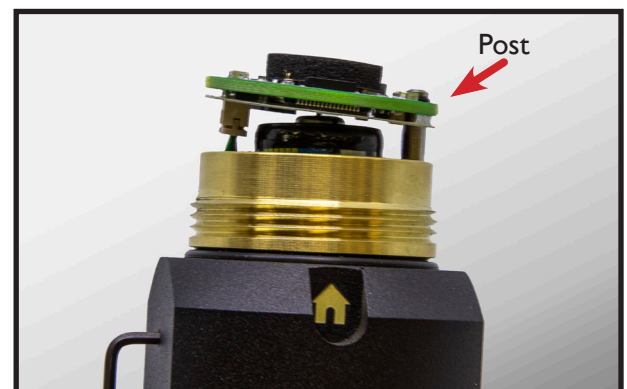

Figure 4: Retaining Post
- 9) Gently remove the circuit board from the retaining post. See Figure 4.
- 11) Align the post and post hole of the circuit board and press the board over the post until it snaps into place below the gasket o-ring. Refer to Figure 4.